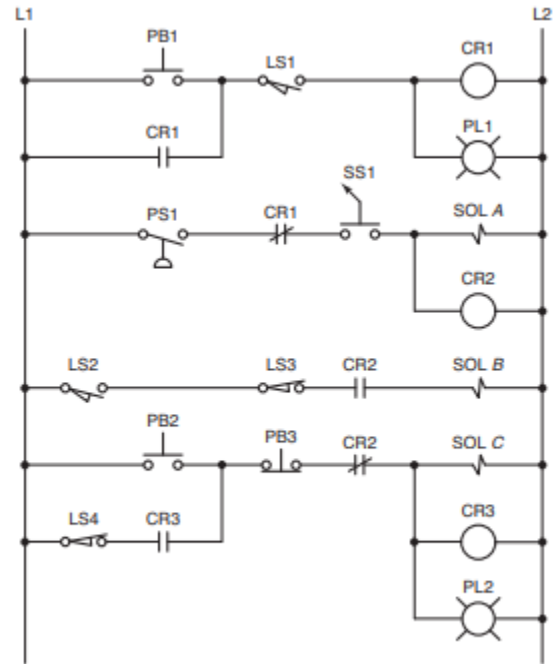

Figure 5-55 Hardwired circuit for Problem 7.
86. Assuming the hardwired circuit drawn in Figure 5-55 is to be implemented using a PLC program, identify a. All input field devices b. All